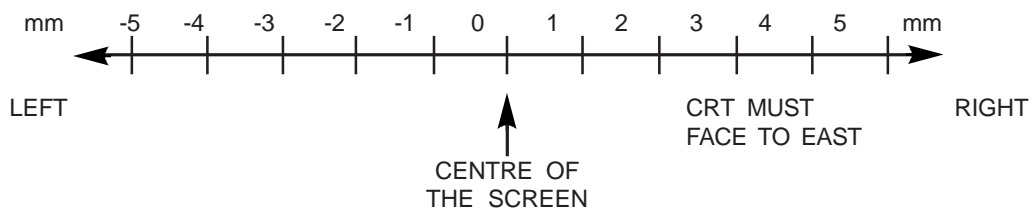

FIG. 8
3. Press REMOTE value (+) (-) button adjust value to obtain the picture at center  $\pm 2mm$ . ( Specification show in Fig.8 )